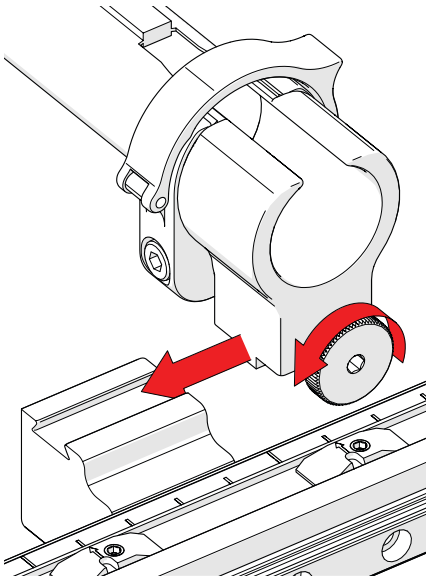

Fig. 51 - Loosen and slide on
1. Loosen the knob on the zipper tube dovetail mount. Slide the mount onto the dovetail link (*Fig. 51*).